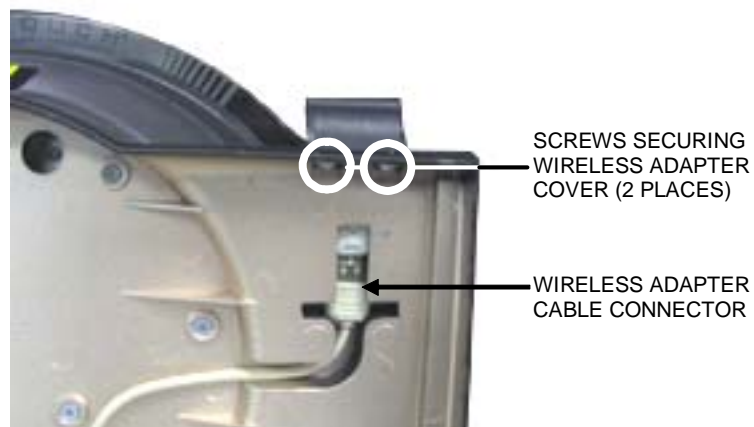

FIGURE 5 - INSIDE BEZEL OF OPEN MONITOR ASSEMBLY
- Open the monitor assembly and remove the 2 screws securing the wireless adapter cover (see Figure 5). Remove the cover, then gently pull the wireless adapter up and out of the system. Twist the wireless adapter cable connector and slide it out of position in order to remove it from the plastic monitor assembly. When you are done with this, the wireless adapter cable should be hanging loosely from the front of the system.
38. Twist the wireless adapter cable connector back into place (see Figure 5).
39. Insert the wireless adapter back into the wireless adapter cable connector, then place the wireless adapter cover back on the unit. Secure the cover in place with the two screws you removed earlier (see Figure 5).